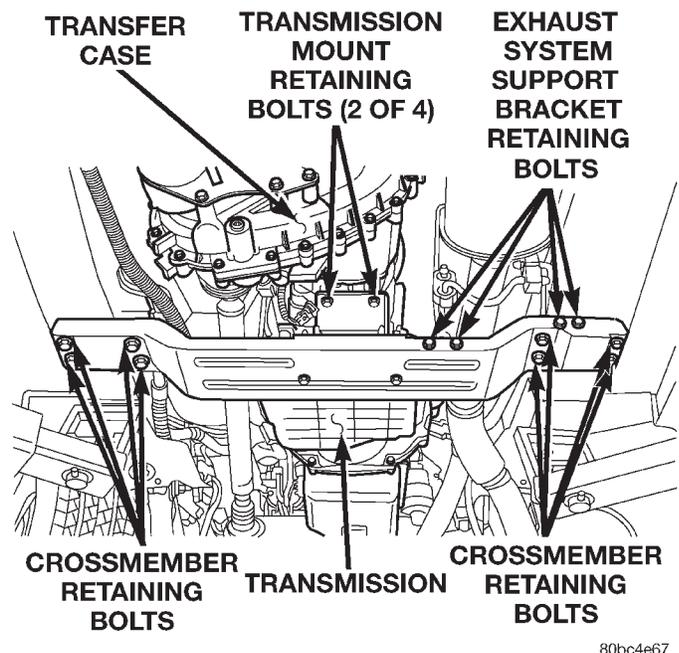

Fig. 25 Transmission Support Crossmember Position & Orientation
(19) Position the transmission support crossmember/mount assembly and install the (4) transmission mount retaining bolts (Fig. 25). Torque the bolts to 75 N·m (55 ft. lbs.).
(20) Install a jack under the transmission support crossmember and raise slightly.
(21) Install the transfer case on the transmission. Torque the transfer case retaining nuts to 75 N·m (55 ft. lbs.).
(22) Using the jack, raise the transmission assembly into position and install the (8) transmission support crossmember retaining bolts (Fig. 25). Torque the bolts to 41 N·m (30 ft. lbs.).
(23) Unclip the wire harness from the transmission support crossmember.
(24) Position the exhaust system support brackets and install the retaining bolts. Torque the bolts to 41 N·m (30 ft. lbs.) (Fig. 25).
(25) Install the vent tube on the transfer case.
(26) Connect the transfer case shift cable on the shifter arm.
(27) Install the rear driveshaft. Torque the bolts to 32 N·m (24 ft. lbs.). Be certain to install the driveshaft in the same position as before removal.